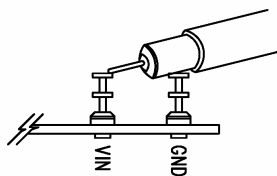

Figure 2. Scope Probe Placement for Measuring Input or Output Ripple
**NOTE:** When measuring the input or output voltage ripple, care must be taken to avoid a long ground lead on the oscilloscope probe. Measure the input or output voltage ripple by touching the probe tip directly across the Vin or Vout and GND terminals. See Figure 2. for proper scope probe technique.